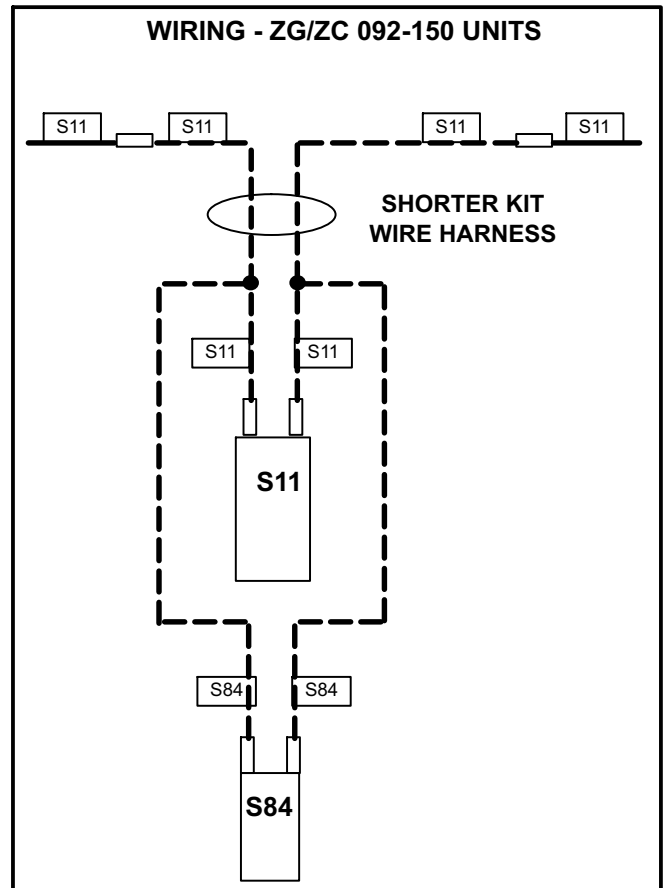

FIGURE 11
- 2- Locate shorter kit harness and connect wires as shown in figure 11. Discard longer harness when installing a ZG or ZC unit.